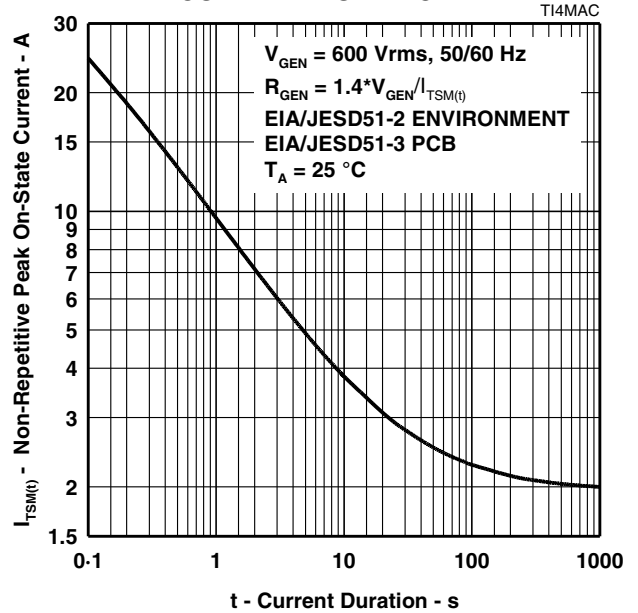

Figure 11.
10. EIA/JESD51-2 environment and EIA/JESD51-3 PCB with standard footprint dimensions connected with 5 A rated printed wiring track widths. See Figure 11 for the current ratings at other durations. Derate current values at $-0.61\text{ }^{\circ}\text{C}$ for ambient temperatures above $25\text{ }^{\circ}\text{C}$